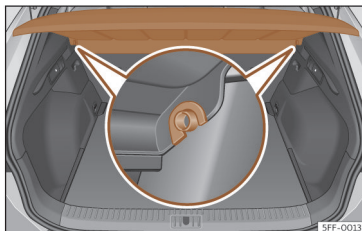

Fig. 183 In the boot: removing and installing the shelf.
- Remove the rear shelf from the side supports >>> **Fig. 183** by pulling it upwards and then take it out.
- Insert the cover horizontally so that the "recess" fits onto the axis of the supports >>> **Fig. 183** and press down until it engages.